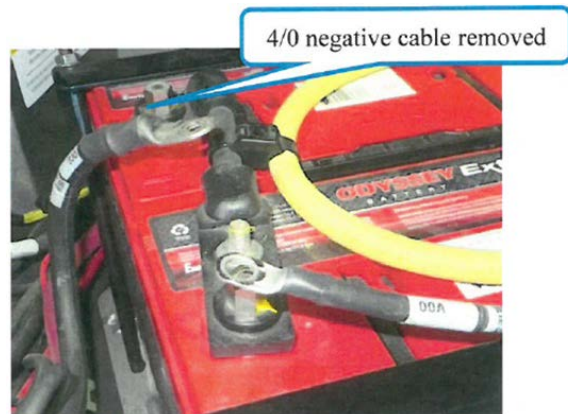

Figure 16: 4/0 CABLE REMOVAL
- 3.6 Remove the 4/0 negative cable only (Figure 16)